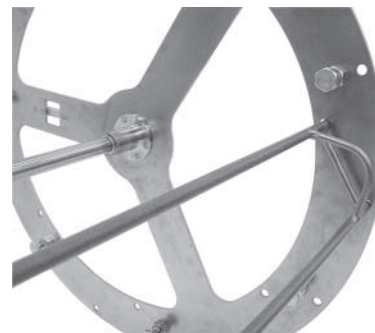

Fig. 27
2. Fit the notched end of fork spit into appropriate holes on the drive side of the rotor (Fig. 27).